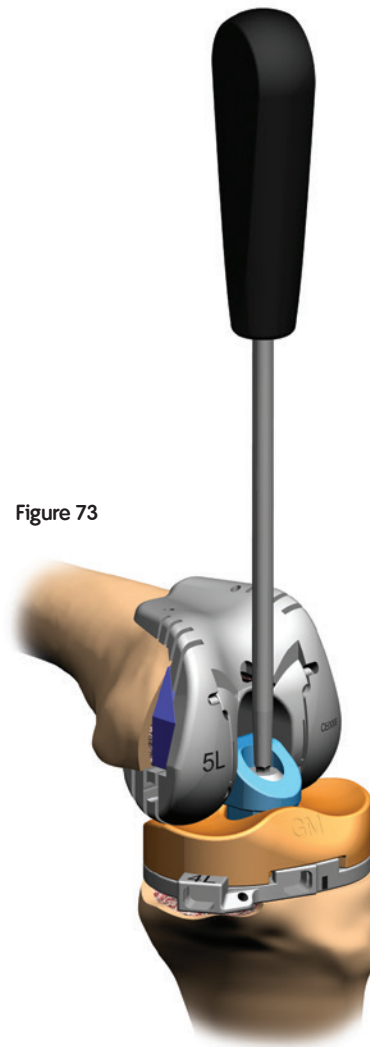

Figure 73
3. Use the 4.75mm Hex Screwdriver to assemble the appropriate length Trial Post to the Tibial Trial Tray (Figure 73).